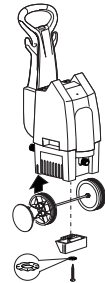

Figure 4
4. Attach foot to front of pressure washer and snap wheels into pressure washer base. Push hubcaps onto wheels (Figure 4).